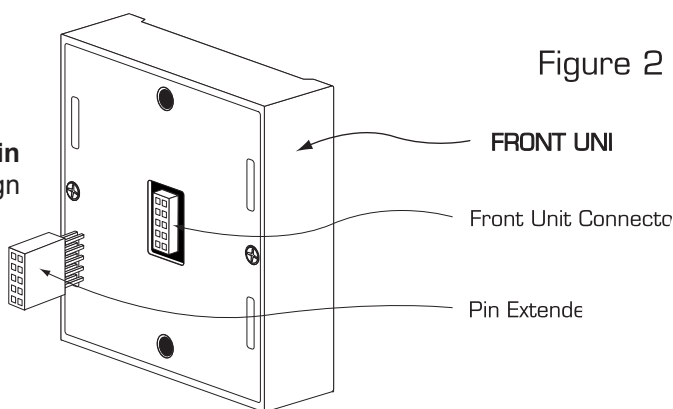

Figure 3
- ③ Attach the pin extender to the end of the front unit connector. **Do not attach the pin extender to the rear unit.** Be sure to align the 10 pins of the pin extender to the 10 positions of the front unit connector. (See Figure 3)